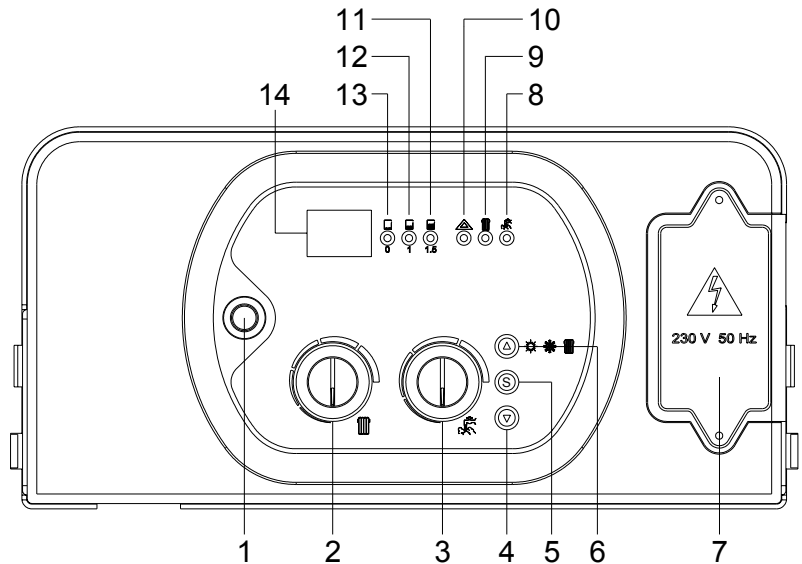

Fig. 1
- ⇒ **The anti-freeze system will come into operation only if the ON/OFF switch 1 (see fig.1) is ON  $\curvearrowright$  position and the gas supply turned on. The manufacturer can accept no responsibility for damage to the boiler caused by lack of observation of these requirements.**
### LEGEND (see fig. 1)
- set the ON/OFF switch 1 (see fig. 1) to ON  $\curvearrowright$ ;
- make sure that display light is ON (see fig. 1) and the no.12 or no.11 lights are ON (see fig. 1); if light no.13 flashes, it means water deficiency in the system: open the filling tap located under the boiler and fill the system until a pressure of 1.5 bar has been reached (light no.11 ON; see fig. 1) and then **close the tap on the filling loop**.
It may be necessary to repeat the procedure a few times to purge air from the pipes. Set the ON/OFF switch 1 (see fig.1) to OFF  $\curvearrowleft$  and then ON  $\curvearrowright$  position and try the ignition procedure once again. If the boiler does not start, reset boiler and set the ON/OFF switch 1 to OFF and then ON position.
Summer-winter use (see fig. 1 pag. I).
Push Pad 6 (fig. 1) to select WINTER ONLY program – Led 9 ON for heating only Mode or SUMMER ONLY program – Led 8 ON for water only Mode or SUMMER and WINTER program Led 9 – 8 both ON for heating and hot water mode.
The heating temperature is regulated by turning knob 2 (see fig. 1 pag. I).
The hot water temperature is regulated by turning knob 3 (see fig. 1 pag. I).
If boiler locks-out (fig. 1 page I, indicator no.10 ON) and intermittent error code on the display :
- Set the ON/OFF switch 1 to OFF  and then ON  position (see fig.1 page I)